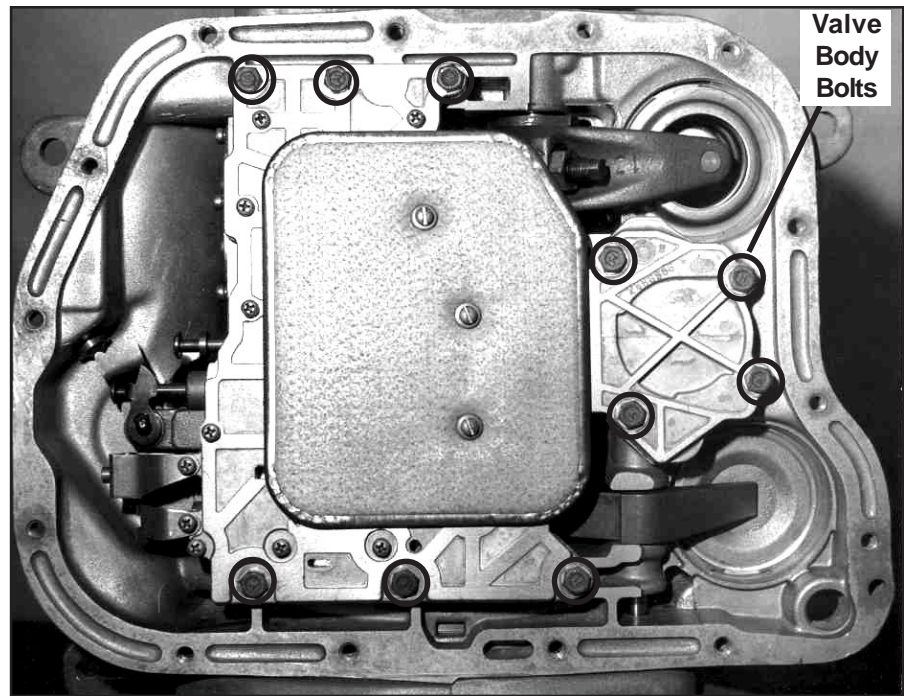
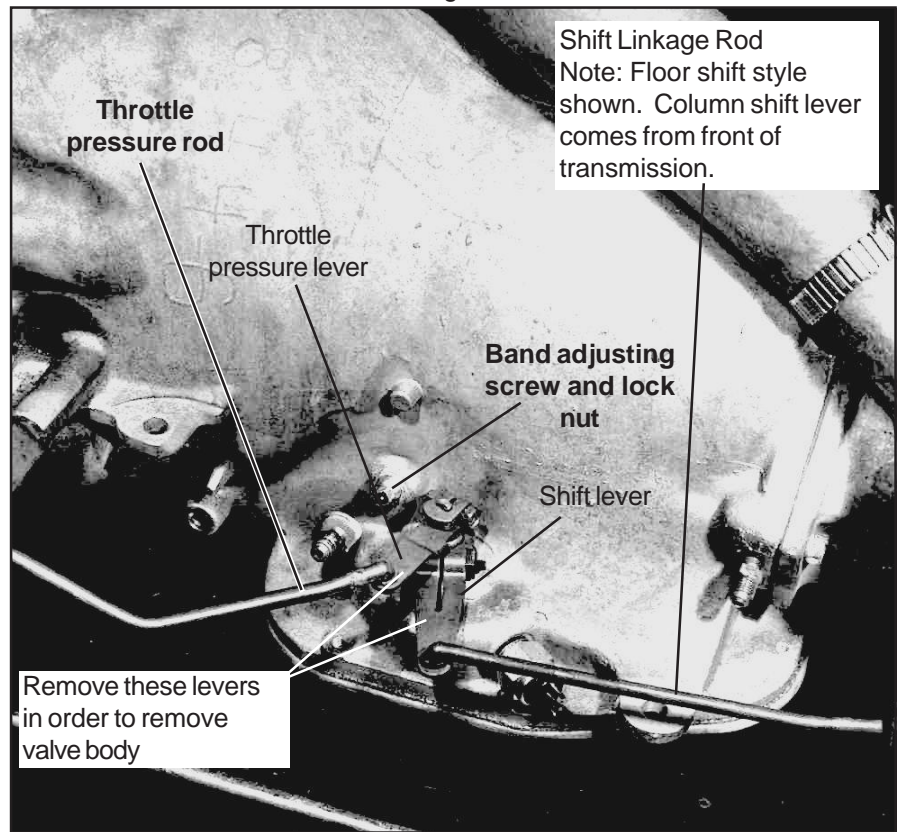

Figure 1
Figure 2
**STEP 2.** The valve body will now be exposed. (See Fig. 1) It is held in place by ten ¼-20 bolts. Before the valve body can be removed you must disconnect shift and throttle linkage. (See Fig. 2) Throttle linkage is located on the left (driver) side of the case just above the valve body. The lever is attached to the throttle shaft
**STEP 4.** Adjust front band. Loosen locknut. (See Fig. 2) Tighten band adjusting screw to 72-in. lbs. (snug). Then back off adjusting screw two full turns. Hold band adjusting screw and tighten 3/4" jam nut securely.